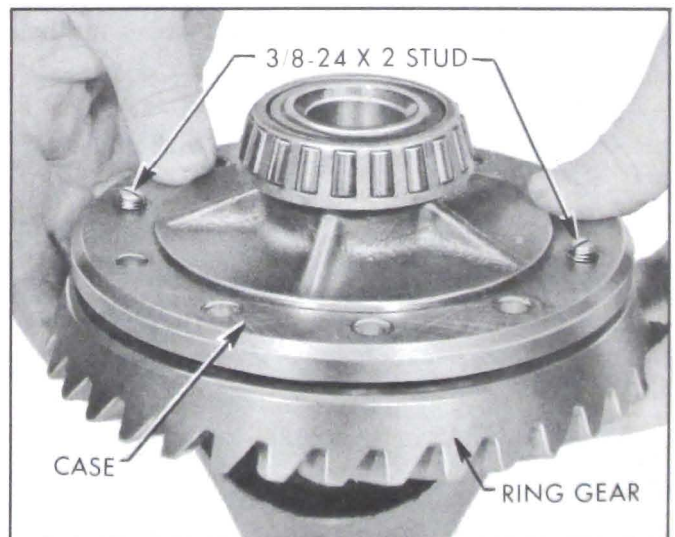

Figure 6-17—Installing Ring Gear on Differential Case
6. After making sure that mating surfaces of case and ring gear are clean and free of burrs, thread two 3/8 - 24 x 2 studs into opposite sides of the ring gear, then install ring gear on case. See Figure 6-17. Install ring gear attaching bolts just snug. Torque bolts alternately in progressive stages to 60 ft. lbs.